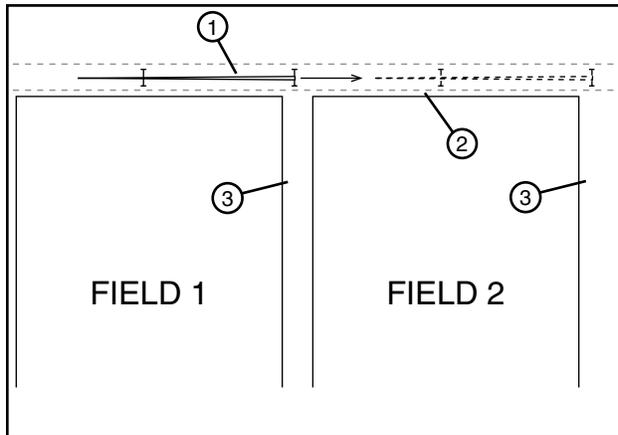

Figure 62-1 1. Machine 2. Tow Lane 3. Cart Path
1. Position the machine in the tow lane. See Figure 62-1.